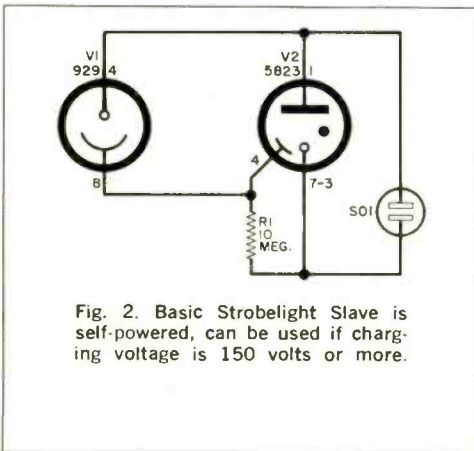

Fig. 2. Basic Strobelight Slave is self-powered, can be used if charging voltage is 150 volts or more.
**Basic Slave Circuit.** A look at the Strobelight Slave Circuit shown in Fig. 2 reveals how it works. The 5823 (*V2*), a gas-filled triode, operates as a switch. At least 150 volts must be applied between the plate (pin 1) and the cathode (pin 7 or pin 3). No conduction occurs until a certain voltage appears on *V1*'s
The trigger voltage for *V2* is generated by *V1*, a 929 phototube, in response to the light from the master strobelight. The basic Strobelight Slave shown in Fig. 2 is, therefore, completely self-powered, and may be used with any strobe having a shutter capacitor charging voltage of at least 150 volts.
**How It Works.** The circuit consists of an astable and a bistable multivibrator, as shown in Fig. 2. The astable multivibrator looks like an ordinary collector-coupled circuit except that the two bias resistors ( $R3$  and  $R4$ ) are connected to a 150- $\mu$ f. capacitor ( $C1$ ). When the *TOSS* button ( $S1$ ) is closed,  $C1$  takes on a